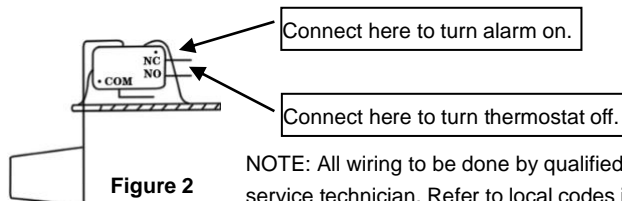

Figure 2
3. Safety switch: The safety overflow switch should be connected to a class II low voltage circuit. To control a thermostatic circuit the COM and NO connections from the safety switch are to be wired in series with the low voltage thermostat circuit to shut down the heating/AC circuit. The COM and NC switch contacts may be used to actuate a low voltage alarm circuit (connected in series) if the heating/cooling system cannot be disrupted. The safety switch comes from the factory with leads connected to the COM and NO switch terminals. Typical hook-up of "NC" circuits would be (Figures 2 & 3),